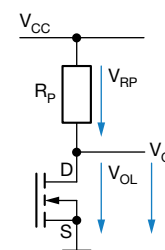

Fig. 3 - Voltage Divider
When the slave select line (SS) is pulled down to the logic “L” stage, a voltage divider is formed by the pull-up resistor ( $R_P$ ) and the internal NMOS drain source junction. The output voltage ( $V_O$ ) is the voltage drop of the open drain output ( $V_{OL}$ ), as shown in Fig. 3.